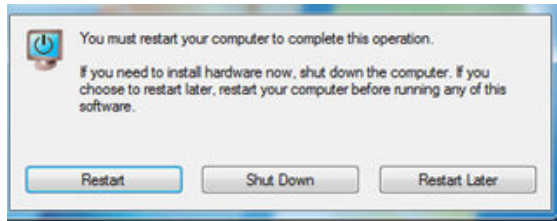

Figure 17. EVAL-SDP-CB1Z Drivers Setup: Restarting the PC
- Before using the evaluation board, restart the PC (see Figure 17).